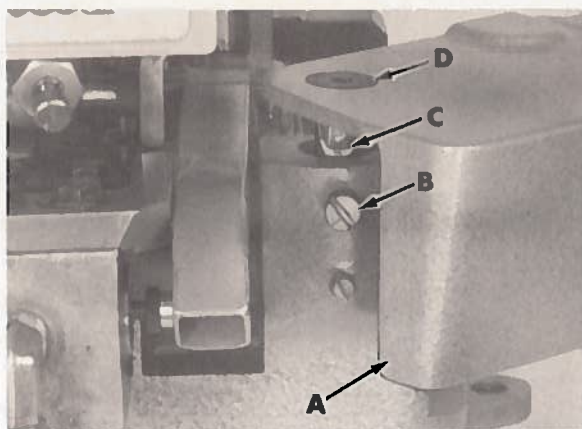

Fig. 7
Remove cloth plate (A, Fig. 7) by loosening screw (B) and lifting upward with stud (C) and screw (D) assembled to cloth plate.